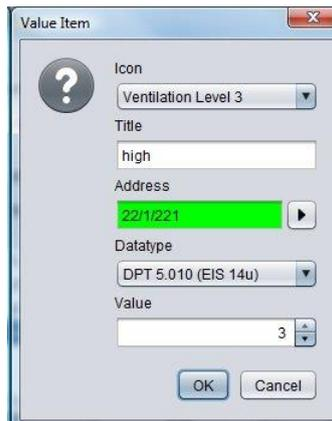

Figure 111: Scenes element “appending group address”
4. **Configuration window functions.** Figure 111 show the possibilities of configuration.